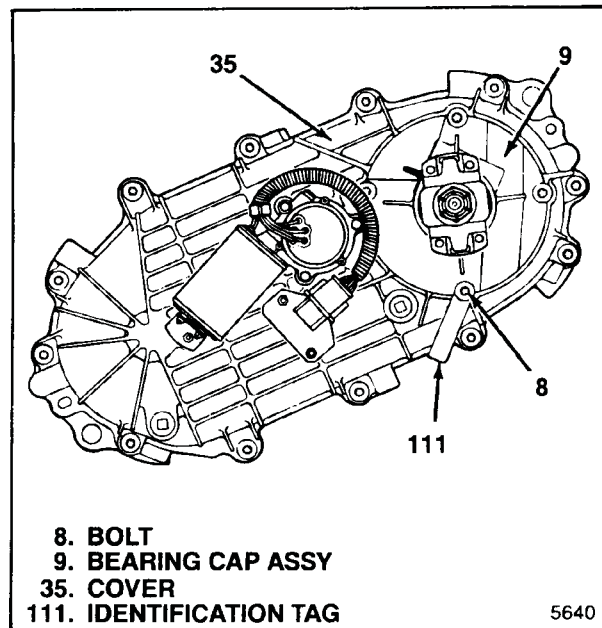

Figure 5-28. Identification Tag Location
- a. Attach speedo plate (12) to bearing cap (14) with stud bolt (13).
- b. For rear spline units only, press new bushing (11) into extension (14) using suitable drift.
- c. Press new oil seal (10) into bearing cap or extension (14).
- d. Apply continuous 1/16 in. (1.6 mm) bead of sealant (Neutral Cure RTV, Loctite 598) all around cover (35) mounting face for bearing cap or extension assembly (9). Center sealant bead between edges of face. Circle bolt holes.
- e. Install bearing cap or extension assembly (9) on cover (35) and attach with four bolts (8). Install identification tag (111) under head of one bolt at location shown in figure 5-28. Torque bolts to 18-28 lb-ft (24-38 Nm).